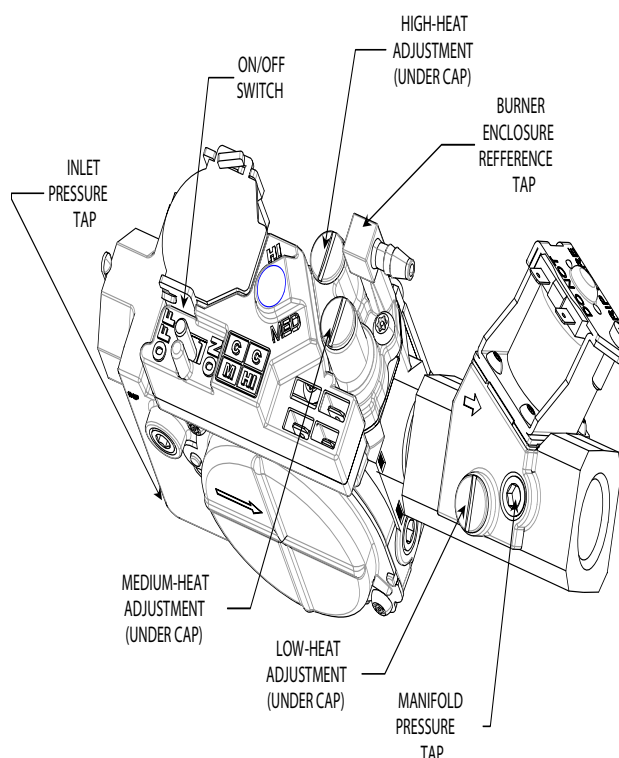

Fig. 60 - Redundant Automatic Gas Valve
- b. Remove regulator seal caps that conceal adjustment screws for medium- and high-heat gas valve regulators. (See Fig. 60.)
- l. Wait for the blower to turn ON then check low-heat manifold pressure. It should be between .5 to .6-in. wc. This setting should not require adjustment but if it does remove the low-heat adjustment cap (See Fig. 60) and turn the low-heat adjusting screw clockwise (in) to decrease manifold pressure or counterclockwise (out) to increase manifold pressure. You will only have 15 minutes to make an adjustment if needed. If you need more time then move setup switch SW1-2 on control center to ON position (See Fig. 33).